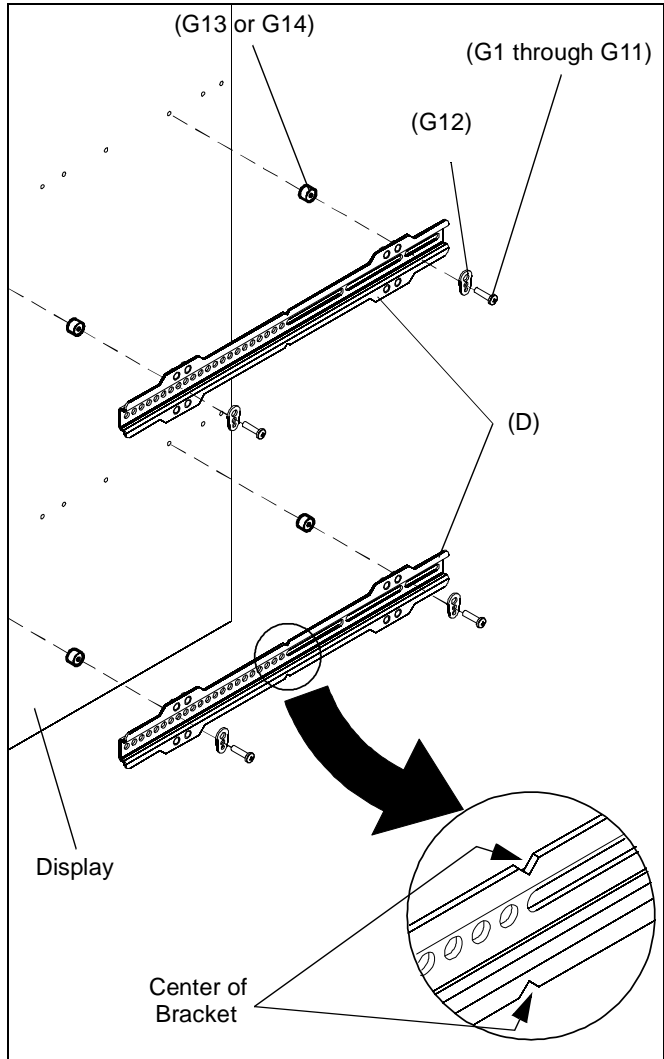

Figure 5
1. Horizontally align the center of the display brackets (D) with center of screen. (See Figure 5)
2. Select correct screws, spacers (if necessary) and washers from the hardware bag and attach display brackets (D) to back of screen. (See Figure 5)